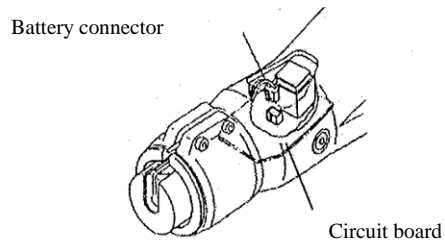

Fig. 7 : Removing the battery connector
1. Remove the battery connector off the circuit board (Fig. 7).